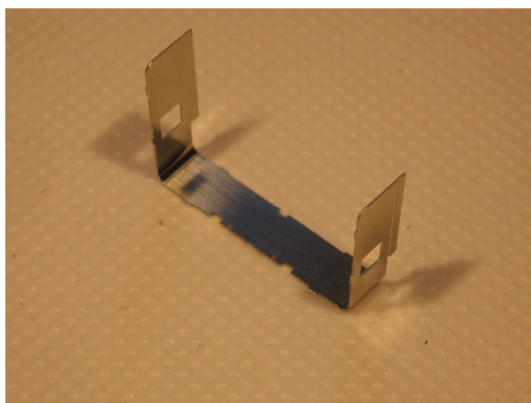

Fig. 19
43. fold around a mandrel about 6mm diameter at the half etch areas, these being on the outside of the bend. Fig 19.